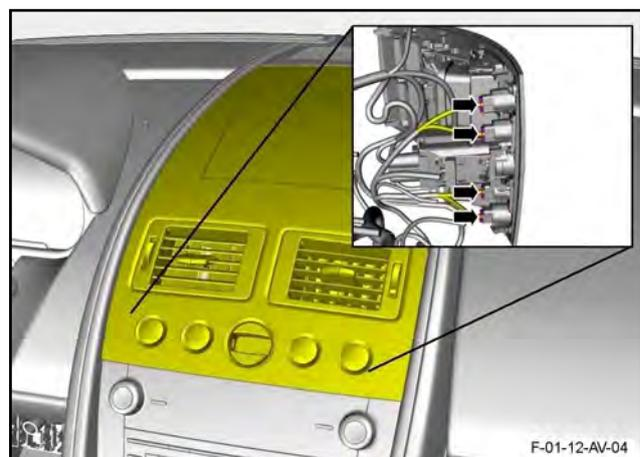

Figure 27
36. Disconnect the electrical connectors from each of the four transmission control switches (refer to Figure 27).